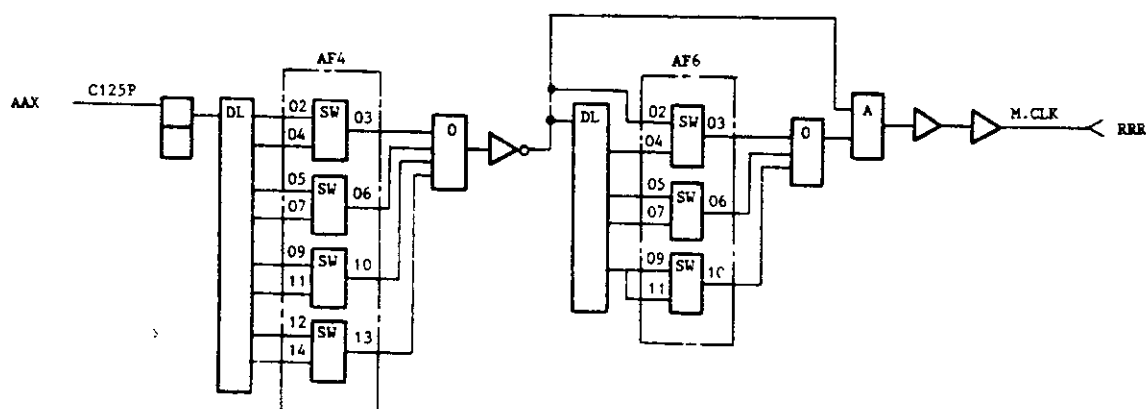

Figure K.1 FMT microprocessor clock adjustment circuit
3. Refer to Figure K.1 and the clock adjustment table. Adjust the clock width by moving the shorting pins. The shorting pin installed across 02/03 in circuit AF4 allows for a narrow pulse. The pin across 13/14 allows for a wider pulse.